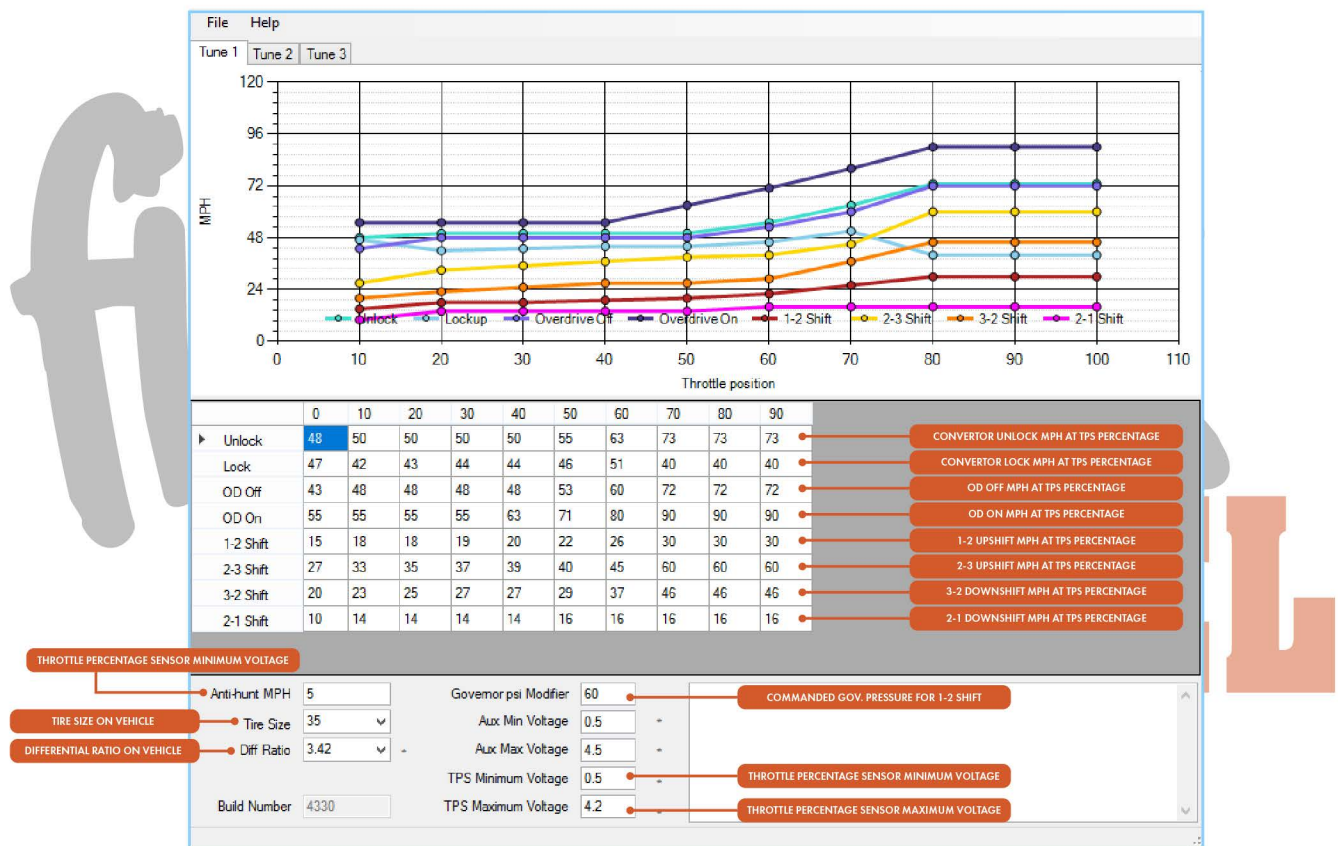

FIGURE 2
3. It will open a second screen as shown in Figure 2